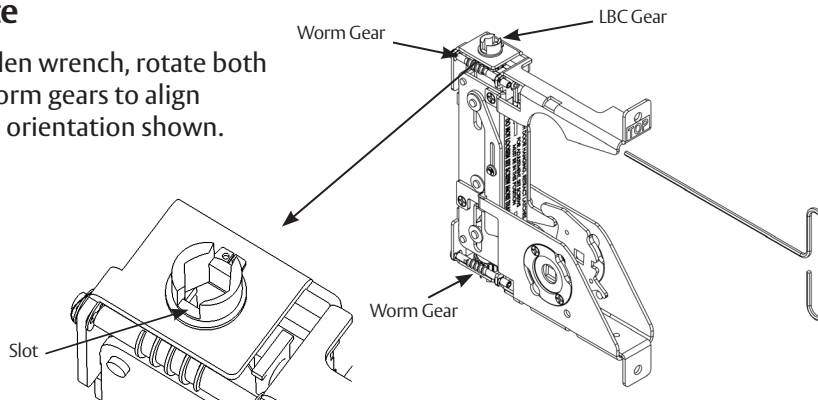

Figure 36
- Using the supplied 3/32" Allen wrench, rotate both Lockbody Cassette (LBC) worm gears to align slots in the LBC gears to the orientation shown. (Figure 36)